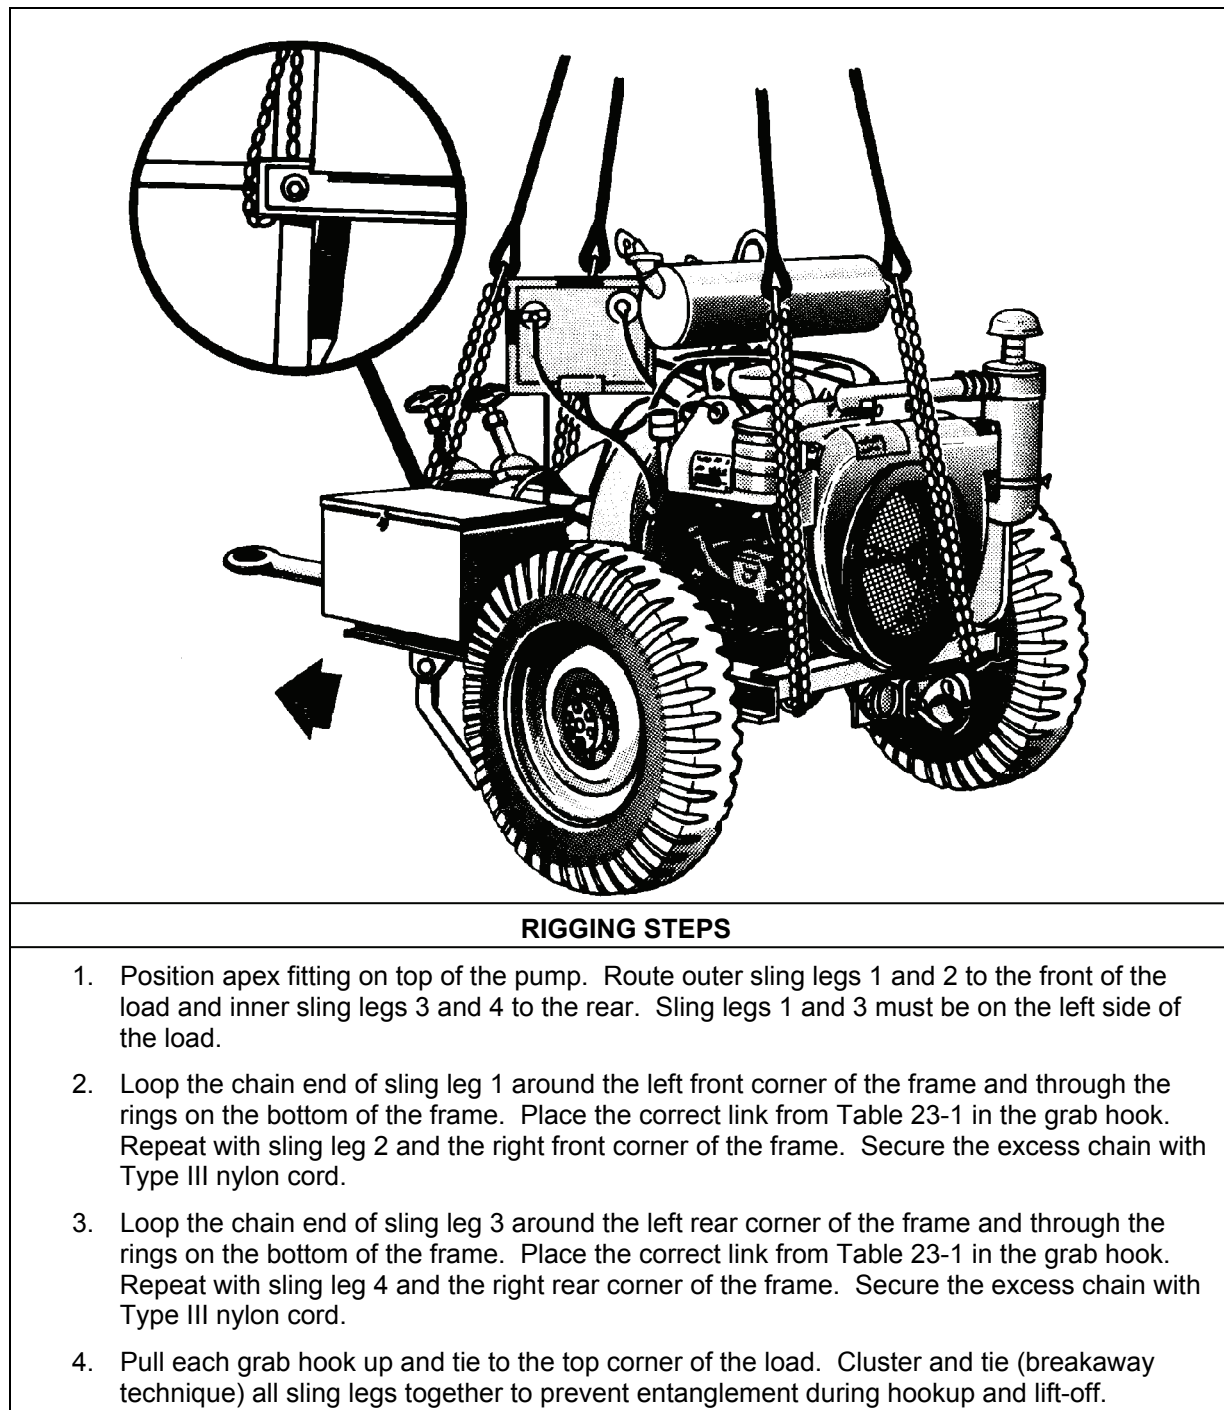

Figure 23-1. 350-GPM Pump Assembly
- **Rigging.** Rig the load according to the steps in Figure 23-1.